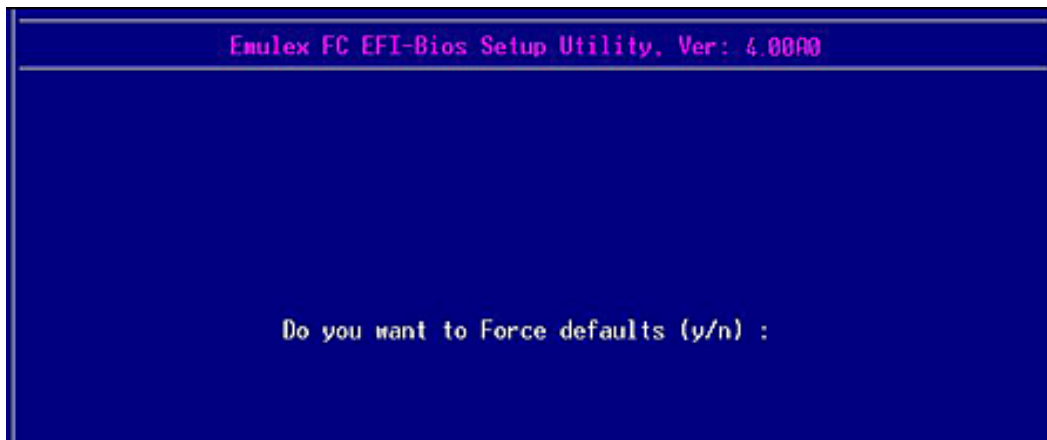

Figure 6-29 Force Defaults Dialog Screen
1. From the EFI-BIOS Setup Utility menu (Figure 6-6) select **4. Reset to Default Values** and press **<Enter>**. The screen shown in Figure 6-29 is displayed.